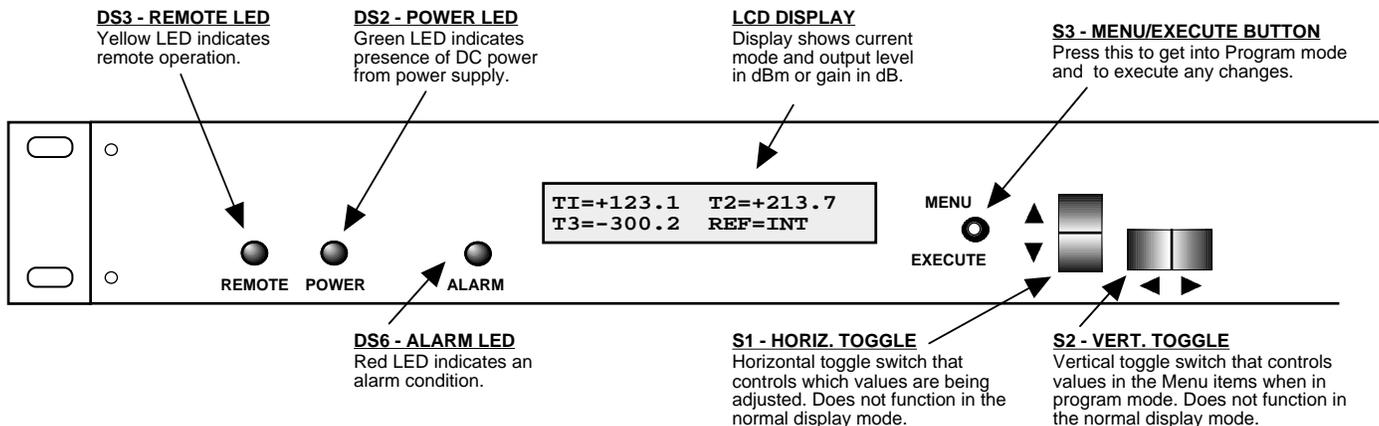

FIGURE 2.2 2083-13-1518 Front Panel Controls and Indicators
Figure 2.2 shows the front panel controls and indicators.
4. Be sure DS6 (green, DC Power) is on and DS2 (red, Alarm) is off (Figure 2.2).
Alarm indications appear on the LEDs (see Figure 2.2).